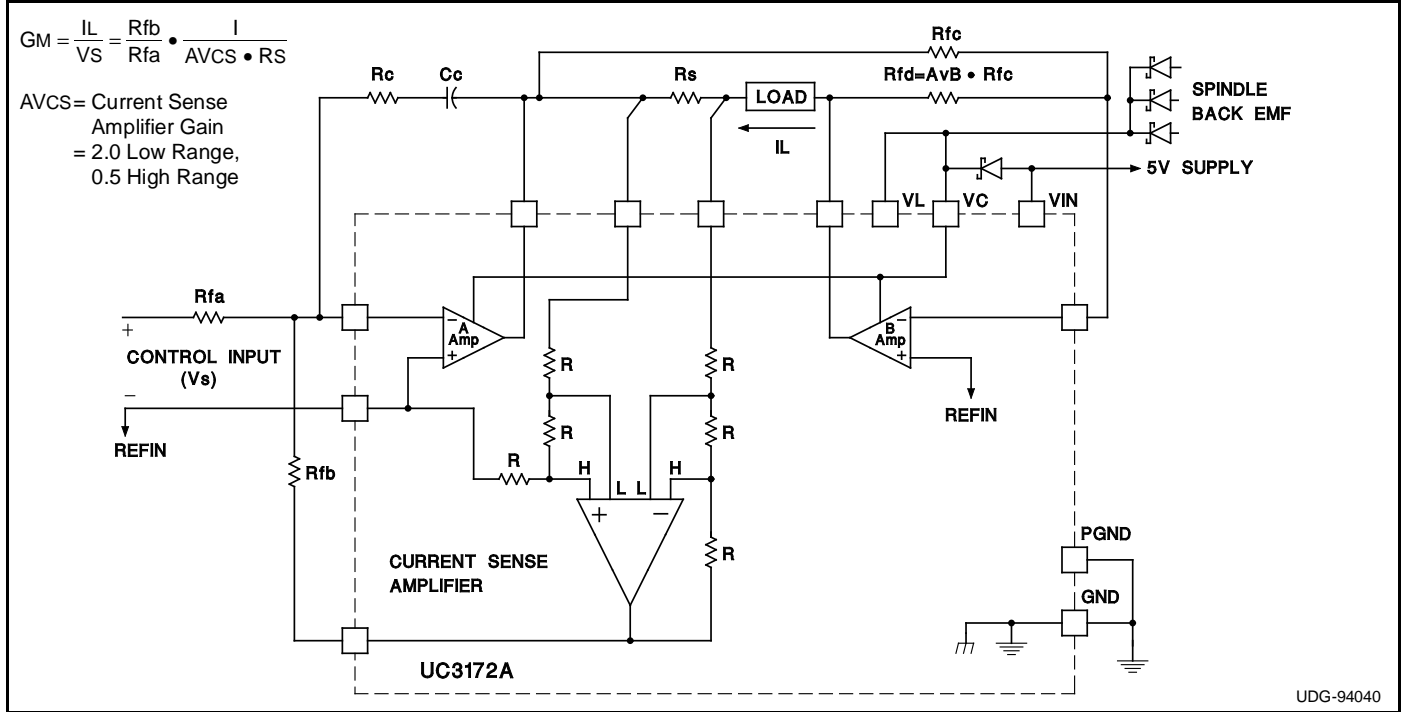

Figure 1. Typical Application
The following is a simple design flow that can be used to configure the UC3172A or UC3173A Full Bridge Power Amplifiers as shown in Figure 1.
- E. The normal configuration for compensation of the power amplifier is shown in Figure 1. A simple RC network, $R_C C_C$, around the A amplifier is all that is required.
In the closed loop transconductance amplifier, the A amplifier operates at the highest noise gain. Noise gain is a measure of the feedback ratio at which the amplifier is operating. For the configuration of the A amplifier in Figure 1, the noise gain is given by the impedance ratio of the RC-CC series network, to the parallel combination of R_{FA} and R_{FB} . For the A amplifier to operate at its expected closed loop gain, the noise gain at any frequency must not exceed its Gain Bandwidth Product (GBW) divided by that frequency. Applying this to the expression above will yield a result for the maximum 3dB bandwidth that can be achieved for a given configuration.